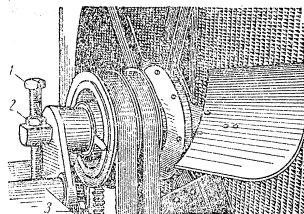

Fig. 29. Fan Belt Tension Adjustment:
**Fan belt tension adjustment.** To adjust fan belt tension, loosen the three nuts by means of which the fan shaft bracket is attached to the timing gear cover (see Fig. 29).